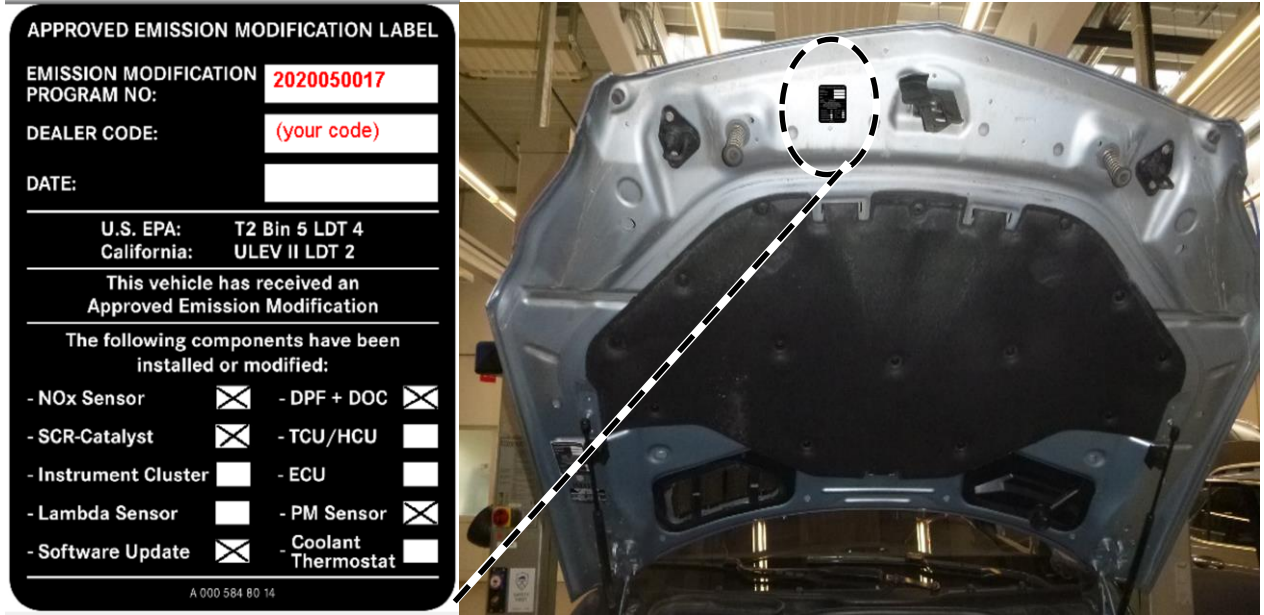

Figure 9
9. Clean the bonding surface of the hood and attach the adhesive label (**Figure 9**).